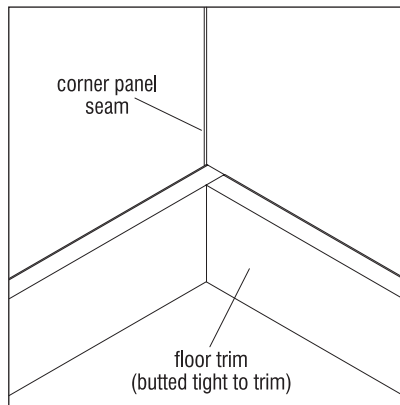

Figure 6 - Completed Floor Trim
4. Install the second cut trim to the base trim retainer clip installed on floor channel (see page 29), butting it tight to the inside surface of the previously installed trim (Figure 6).